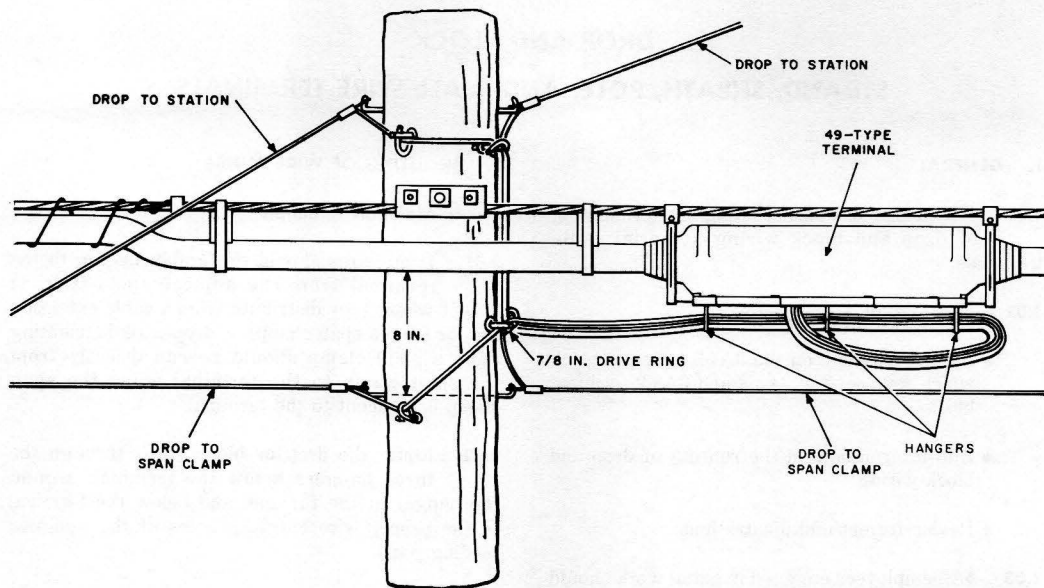

Fig. 1—Running Drop Wire to 49-Type Terminal at Pole
2.01 Drop wires should preferably be run to the terminal from the adjacent pole (Fig. 1) except where they distribute from a cable extension arm or from a span clamp. A drop wire distributing from a span clamp should be run directly from the span clamp to the terminal when the span clamp is adjacent to the terminal.
2.03 Refer to Fig. 1, 2, 3, 4, and 5 for typical arrangements of drop wires fed from strand-mounted terminals on aerial cable. Note that the arrangement of wires is similar at all strand-mounted cable terminals.